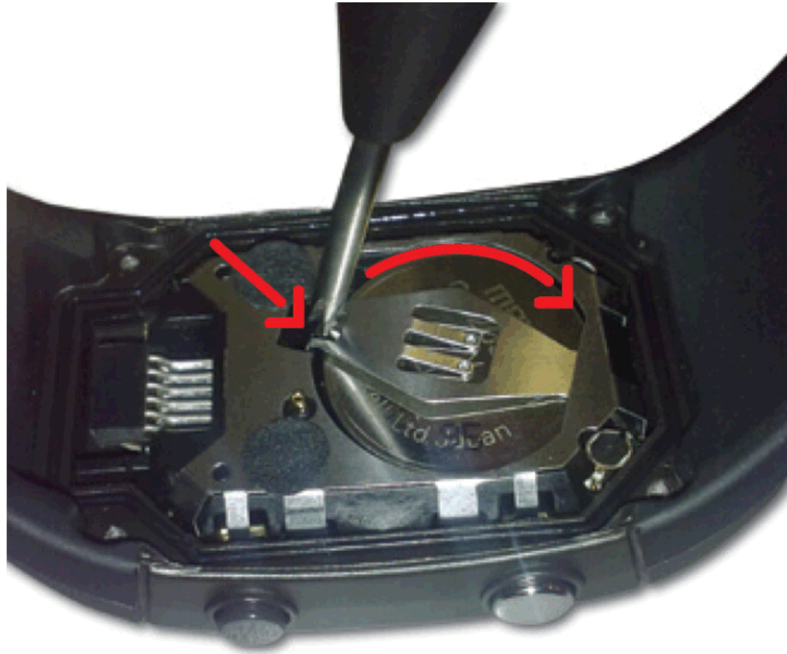

Figure 4-2. Remove Chronos Module Battery
4. Remove the battery before connecting the module to the emulator. Place the screwdriver tip between the battery and the battery holder (small metal tab) and push the tab away from battery (see Figure 4-2). Detailed instructions are shown in the eZ430-Chronos Disassembly and Assembly video on www.ti.com/chronoswiki.